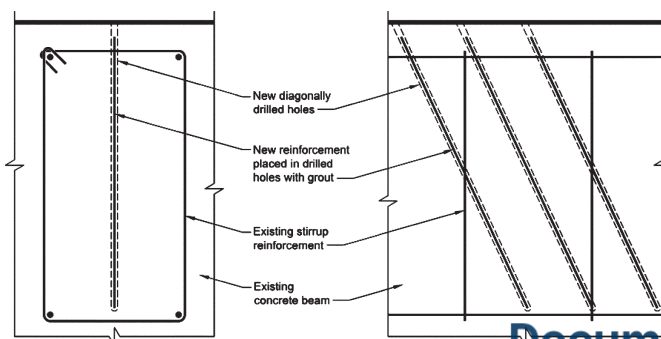

Fig. 6—Internal steel reinforcement.
3. *Internal steel and FRP reinforcement*—Additional steel or fiber-reinforced polymer (FRP) reinforcement can be installed by drilling holes, inserting steel or FRP dowels, and grouting (Fig. 6). Several grouting materials have been used successfully to bond the dowels to the concrete;